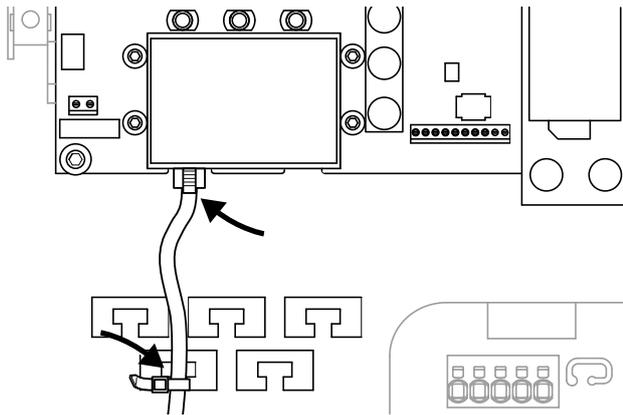

Fig. 42: Fasten the cable to the cable tray
1. Properly fasten all cables to the cable tray with a cable tie.  **Fig. 42**